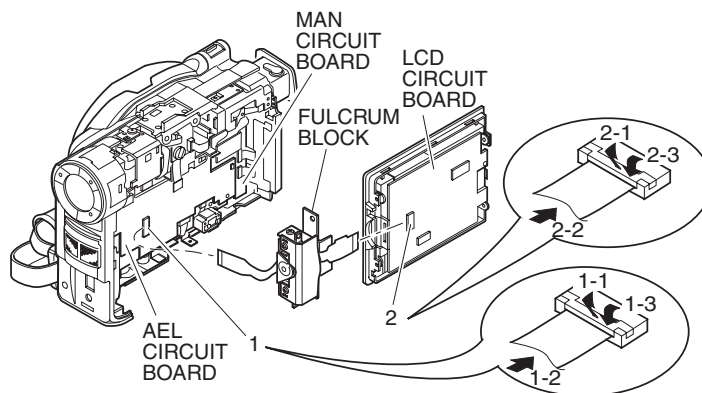

Fig. 4-7-8 Setting to Service Position (D)
(4) Setting to service position (D) (Fig. 4-7-8)